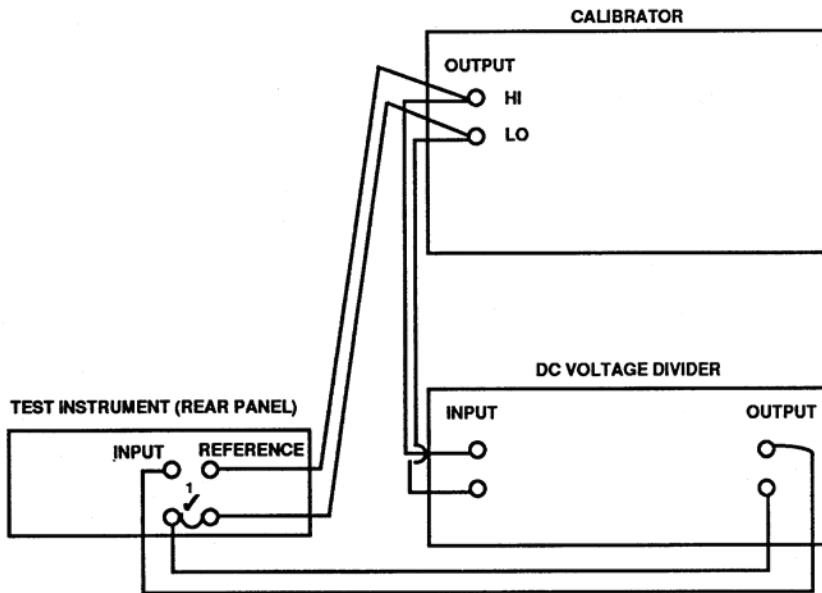

Figure 1. DC ratio.
- (1) Connect equipment as shown in figure 1.